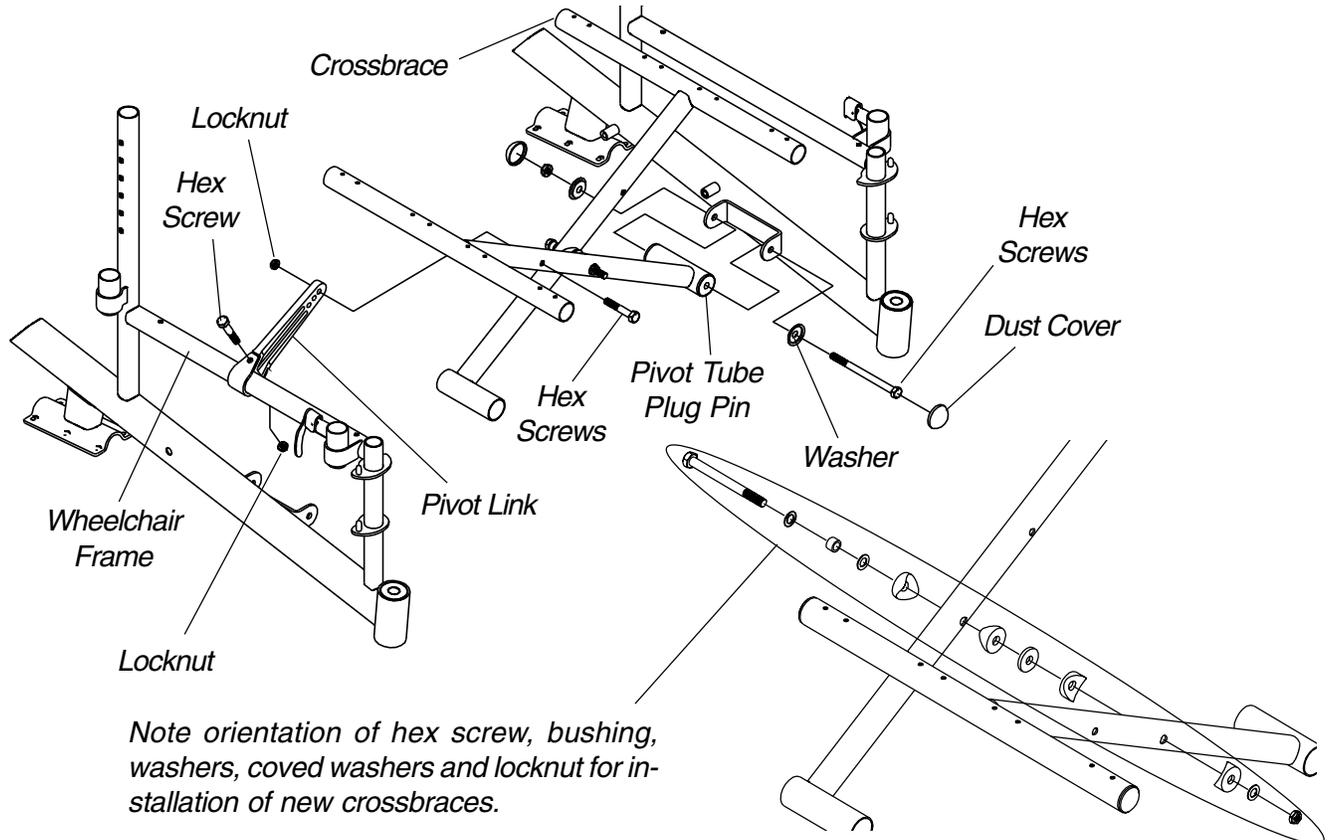

FIGURE 8 - CHANGING SEAT WIDTH
**CHANGING SEAT WIDTH (FIGURE 8)**
3. Remove the hex screws and locknuts that secure the two (2) pivot links to the wheelchair frame and crossbraces. Refer to the following chart to determine if new pivot links will be needed:
5. Remove the hex screws, washers and locknuts that secure the bottom of the two (2) crossbraces to the wheelchair frame.
6. Remove the hex screw, covered spacers, washers and locknut that secure the two (2) existing crossbraces together.
7. Remove the four (4) pivot tube plug pins from the bottom of the two (2) existing crossbraces.
8. Install the four (4) pivot tube plug pins into the bottom of the two (2) new crossbraces.
9. Assemble the two (2) new crossbraces together. Refer to FIGURE 8 for hardware orientation.
10. Reinstall the hex screws, washers and locknuts that secure the bottom of the two (2) new crossbraces to the wheelchair frame.